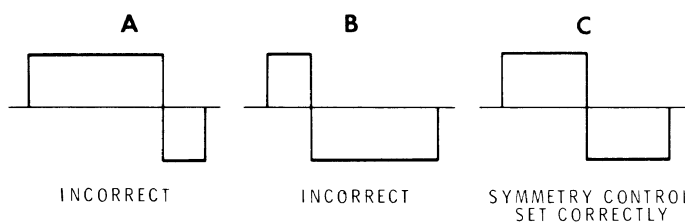

Figure 3
- (✓) Rotate the SYMMETRY control until the positive and negative halves of the square waveform are equal, as shown in part C of Figure 3.